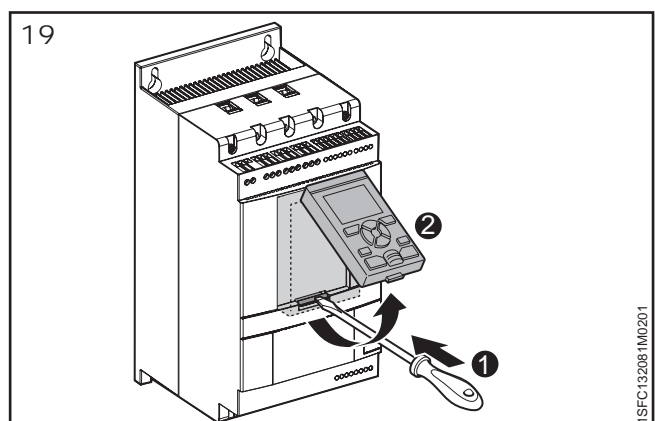

Figure 19: Detach the keypad
The PSTX keypad is detachable for i.e. door mounting. Connect the keypad with the included 3 meter cable managing both serial communication and power supply. The cable shall be connected to the network port on the front of the softstarter. Detach the keypad by pressing the lock with a screwdriver according to ① and ② in **Figure 19**.